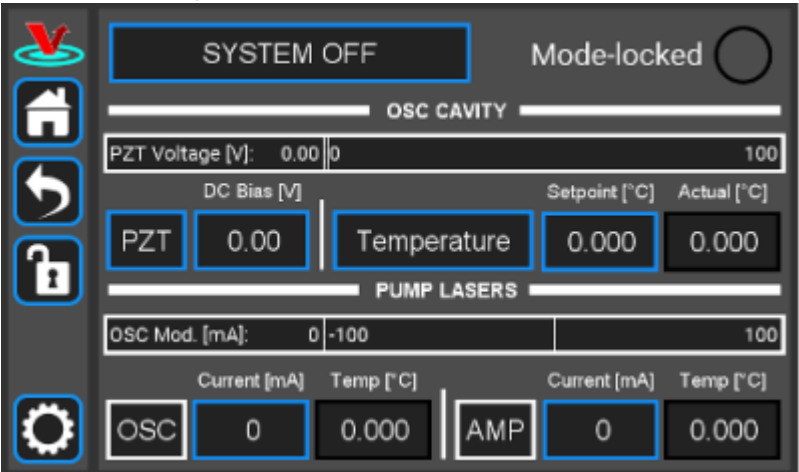
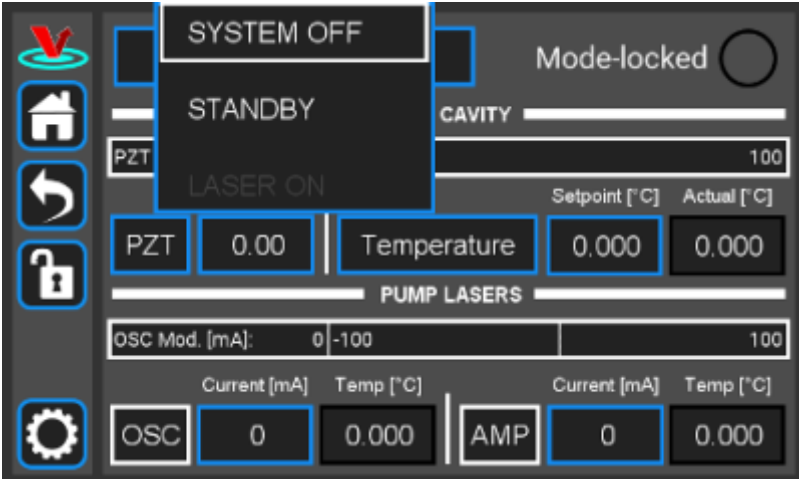

Fig. 3: The FFC-100 GUI in off state
Fig. 4: Select Standby laser state
1. Touch the “System Off” button at the top of the front panel screen (figure 3) to bring up a drop-down menu. Select “Standby” (figure 4) to turn on temperature control of the pump diodes and oscillator cavity.